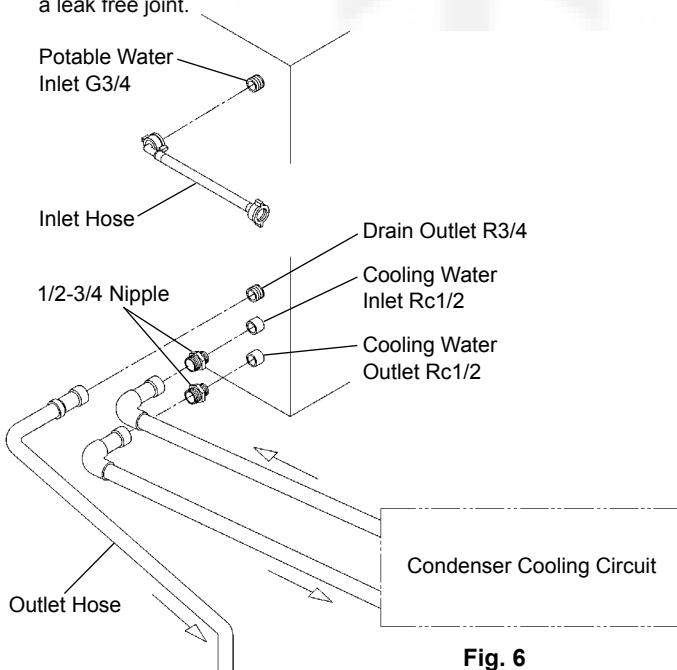

Fig. 6
- * Hoshizaki recommends that the water-cooled Condenser should be connected to a closed circuit recirculating type cooling system utilizing a tower, water chiller or similar (see Fig. 6 and 7). Water make up should be via a ball valve/break tank arrangement.
(Fig. 6 and 7)**
5) Connect the Condenser cooling circuit to the free ends of 1/2-3/4 nipples as indicated (Fig. 6), using a suitable rigid type pipe. P.T.F.E. tape and/or a suitable sealing compound should be used to obtain a leak free joint.